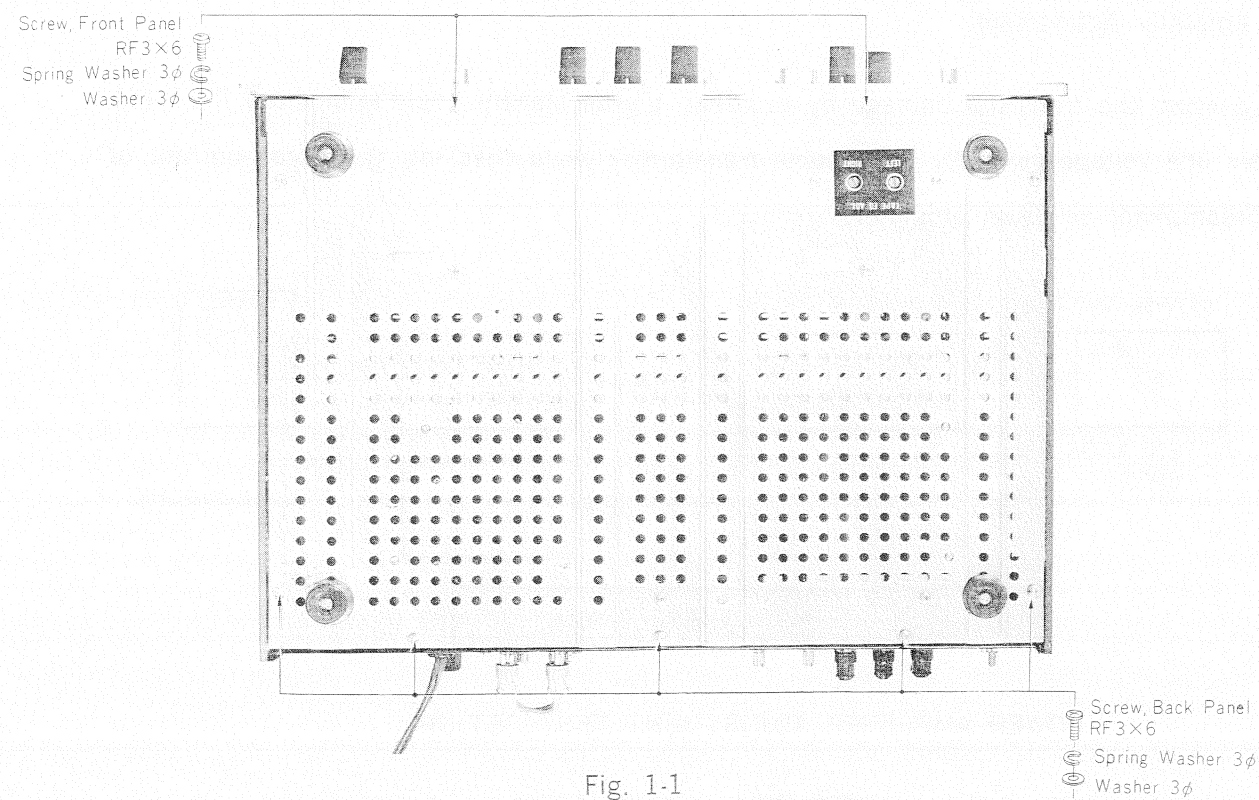

Fig. 1-1
(1) Removal of Power Amplifier and Power Supply Section.
- (b) Remove five screws (+RF 3×6) from bottom of chassis to release the back panel section as shown in Fig. 1-1.
(2) Removal of Preamplifier Section and Control Panel.
- (a) After taking the chassis cover off, remove the two screws (+RF 3×6) from bottom of the chassis as shown in Fig. 1-1.